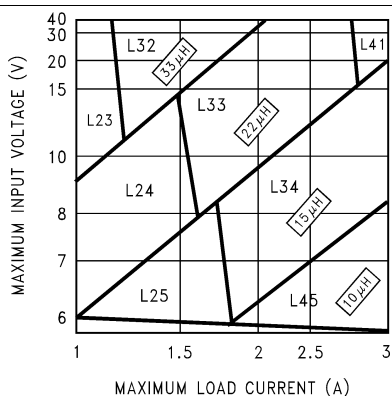

Figure 14. LM2673-3.3
**Step 3:** Determine the inductor required by using one of the four nomographs, Figure 14 through Figure 17. Table 3 provides a specific manufacturer and part number for the inductor.
**Step 5:** Determine an input capacitor from Table 5 and Table 8 for fixed output voltage applications. Use Table 1 or Table 2 to find the specific capacitor type. For adjustable output circuits select a capacitor from Table 1 or Table 2 with a sufficient working voltage (WV) rating greater than  $V_{IN}$  maximum, and an RMS current rating greater than one-half the maximum load current (2 or more capacitors in parallel may be required).
**Step 3:** Use the nomograph for the 3.3-V device, Figure 14. The intersection of the 16-V horizontal line ( $V_{IN}$  max) and the 2.5-A vertical line ( $I_{LOAD}$  max) indicates that L33, a 22- $\mu\text{H}$  inductor, is required.